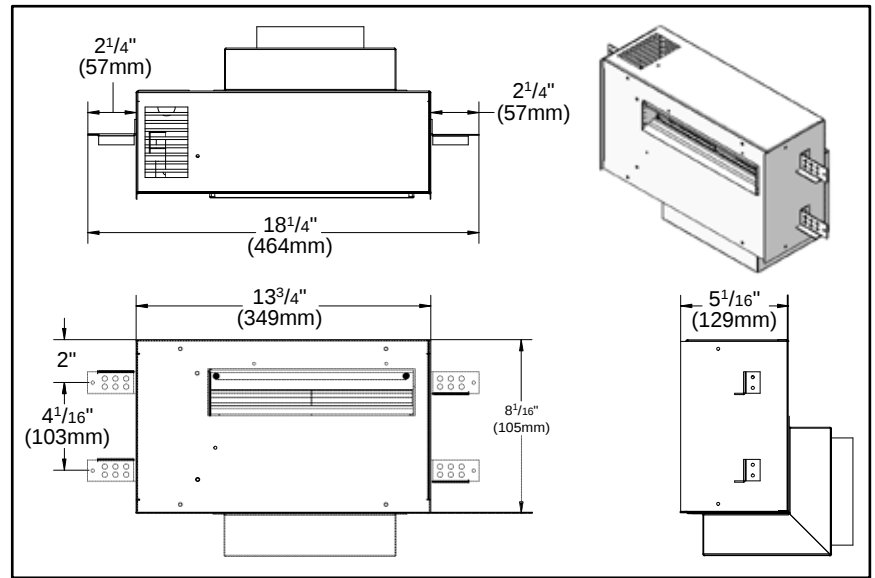
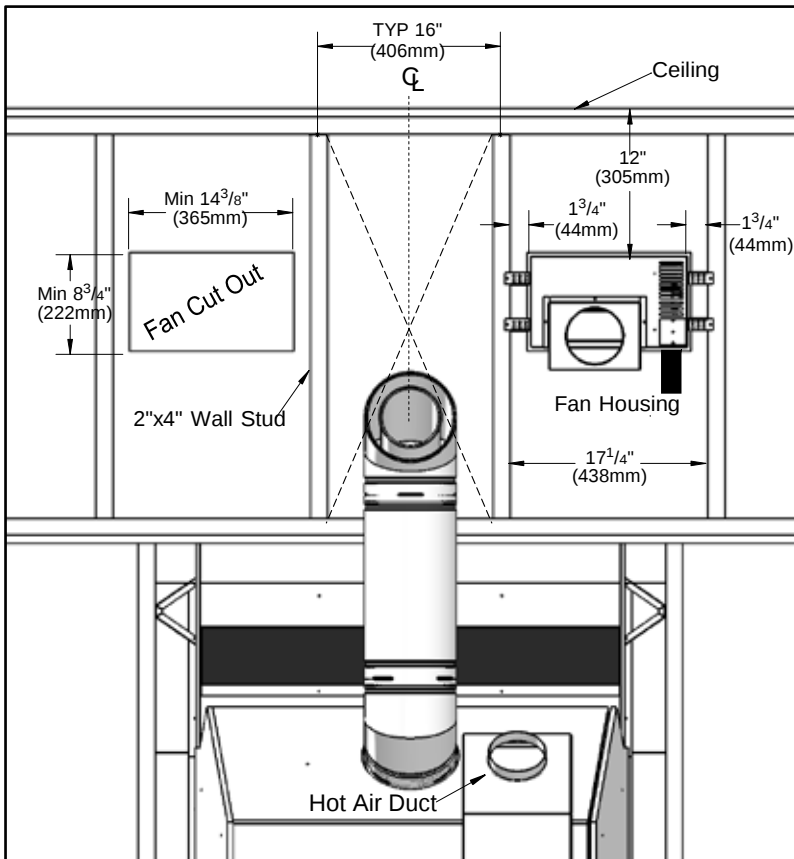

Figure 5: Fan housing overall dimensions.
Figure 6: Minimum Installation Clearances for Fan.
4. With the “figure 5: fan housing overall Dimensions.” and “figure 6: minimum Installation Clearances for fan.”